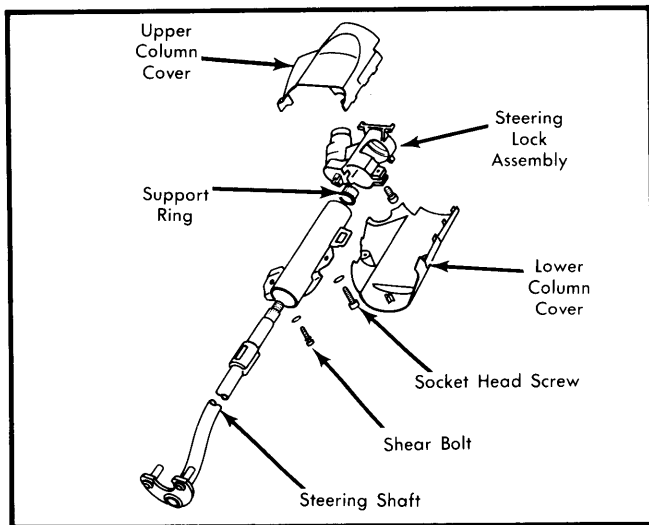

Fig. 1 Exploded View of Audi 4000 Upper Steering Column
2) From under hood, remove clamp bolt attaching steering shaft clamp to steering gear pinion shaft. Remove column cover bolts and then upper and lower steering column covers. See Fig. 1.
3) Pry lock washer off of steering shaft and remove spring. Remove contact ring, then remove steering lock assembly. Remove support ring from column tube. See Fig. 1. Center punch shear bolt attaching column tube to dash. Drill out shear bolt, then remove socket head screw attaching column tube to dash.
4) On steering shaft, slide column tube off of steering shaft. Inspect steering shaft, support ring and steering lock assembly for wear or damage. Replace components as necessary. See Fig. 1.